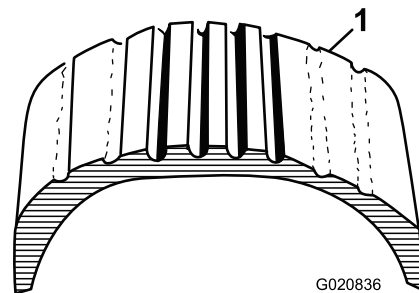
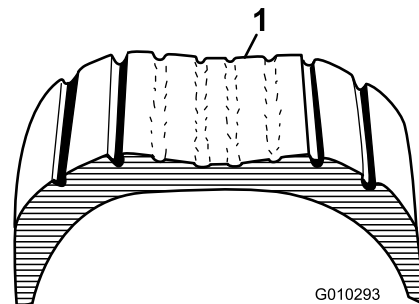

Figure 14
Figure 15
1. Visually inspect the tires for damage and wear (Figure 14 and Figure 15).